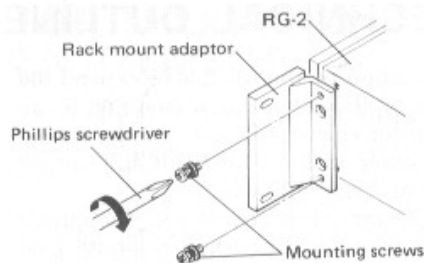

Fig. 8
2. Secure the rack mount adaptors onto the side panels with the accessory mounting screws (M4×10). (Fig. 8)